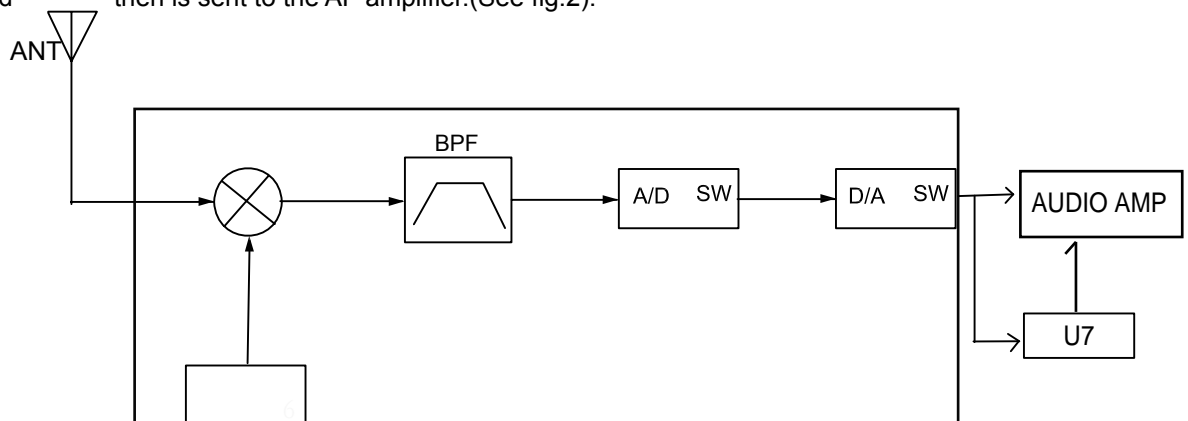

Fig .2
(Completed in RDA1846S) IC in RDA1846S can program to control frequency synthesizer to generate local oscillation and receiving signal, and then mix frequency in image frequency interference suppression mixers to generate IF (intermediate frequency). (See fig.2)
2. DIGITAL channel: signal is sent to band-pass processor (U7) from RDA1846S to be decoded and decompressed to convert to digital signal, and then is sent to the AF amplifier. (See fig.2).